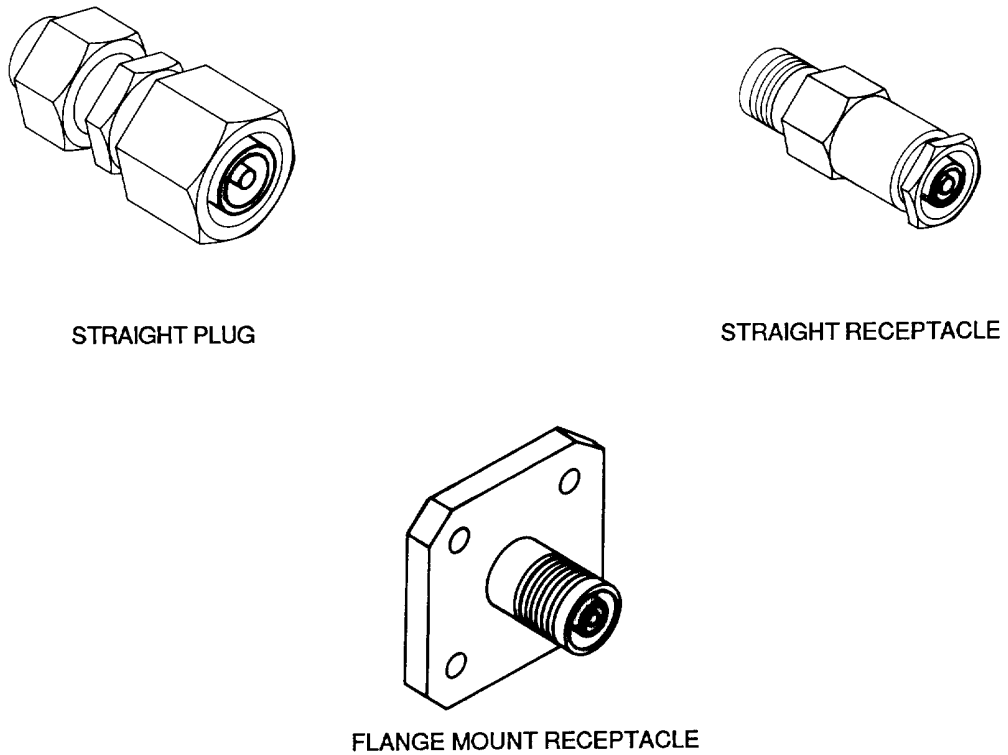

Figure 18. Typical SMA Series Connector
51. **Series SMA Connectors.** These connectors are subminiature, low voltage connectors with threaded coupling, 50 ohm impedance and an operating frequency to 12,400 MHz (Figure 18).